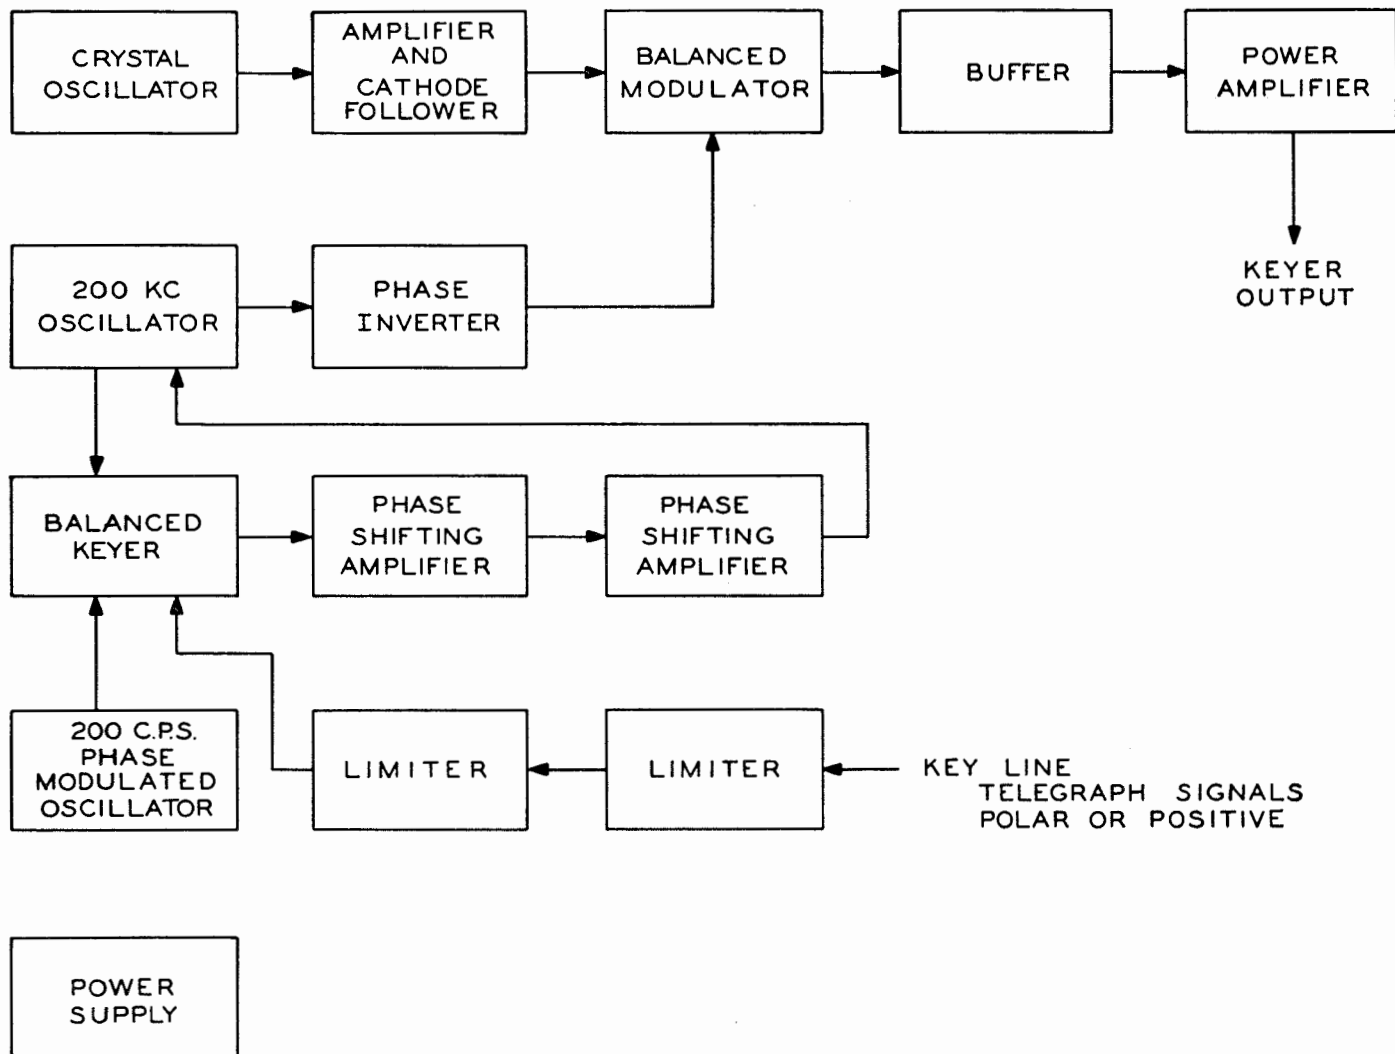

Figure 2-1. Functional Block Diagram
The principle of operation of the keyer is suggested by the functional block diagram (figure 2-1). The r-f input to the keyer may be that from an oscillator associated with a Navy transmitter or that of the crystal oscillator of the keyer. The keyer oscillator is equipped with three crystals, any one of which may
c. CIRCUIT ELEMENTS.—The simple block diagram of figure 2-1 shows the association of the main parts of the frequency shift keyer. In this block diagram, it may be seen that the signal from the crystal oscillator is fed into an amplifier and cathode follower which in turn, feeds a balanced modulator. Here in the balanced modulator, the output of the crystal oscillator and the output of the 200 kc oscillator are combined. The output of the balanced modulator is further amplified and filtered in an intermediate buffer-amplifier and then fed to the power amplifier. The output of the power amplifier appears across a low impedance line which is available for connecting to associated radio transmitters.